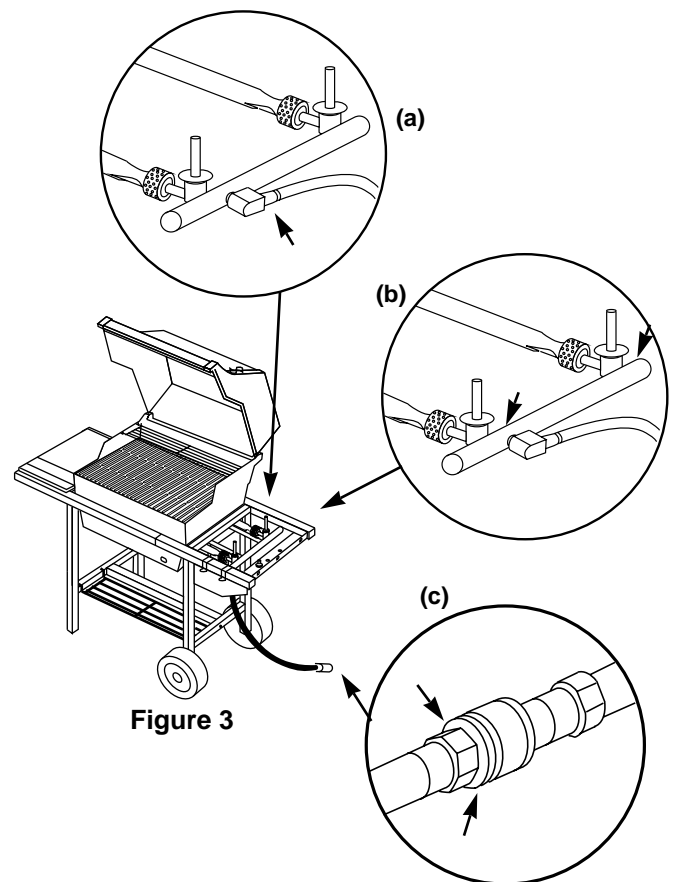

Figure 3
a) Hose to manifold connection. Figure 3 (a).
**⚠WARNING:** If there is a leak at the hose to manifold connection, Figure 3 (a), retighten the hose fitting with a wrench and recheck for leaks with soap and water solution.
b) Valves to manifold connections. Figure 3 (b).
c) The hose to quick disconnect connection. Figure 3 (c).